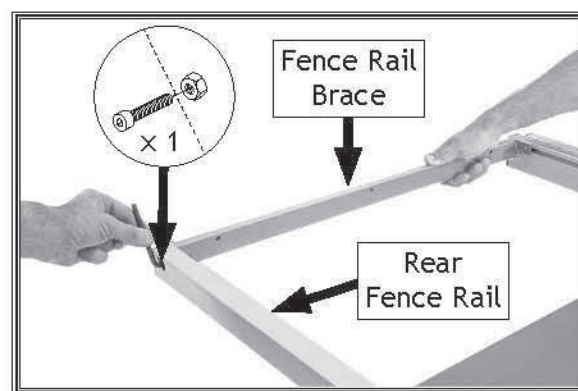

Figure 31. Attaching rear end of fence rail brace.
28. Using a helper, mount fence rail brace to rear fence rail with (1) M8-1.25 $\times$ 16 cap screw and (1) M8-1.25 hex nut (see Figure 31).